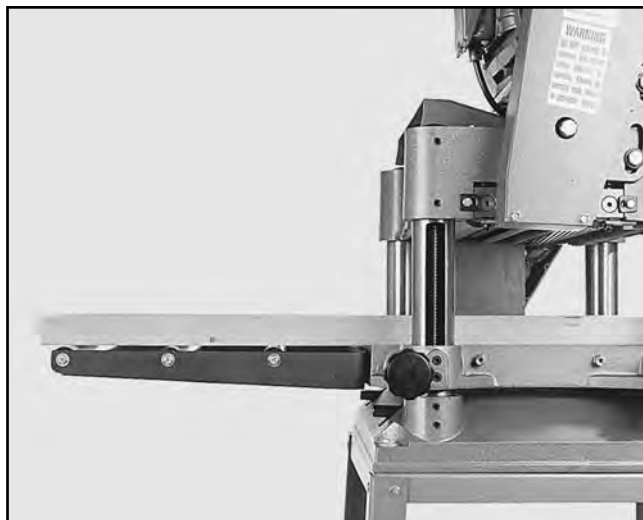

Figure 32. Inspecting extension roller height.
1. Lower the table and position a flat board, so it lays on the table and suspends over one of the extension rollers. See **Figure 32**.